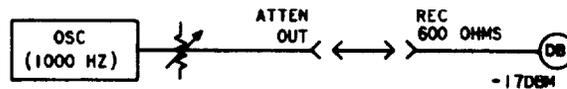

Fig. 5
- 8 Patch the ATTEN OUT jack to the REC 600 OHMS jack (Fig. 5); adjust attenuator for an output of  $-17$  dBm.